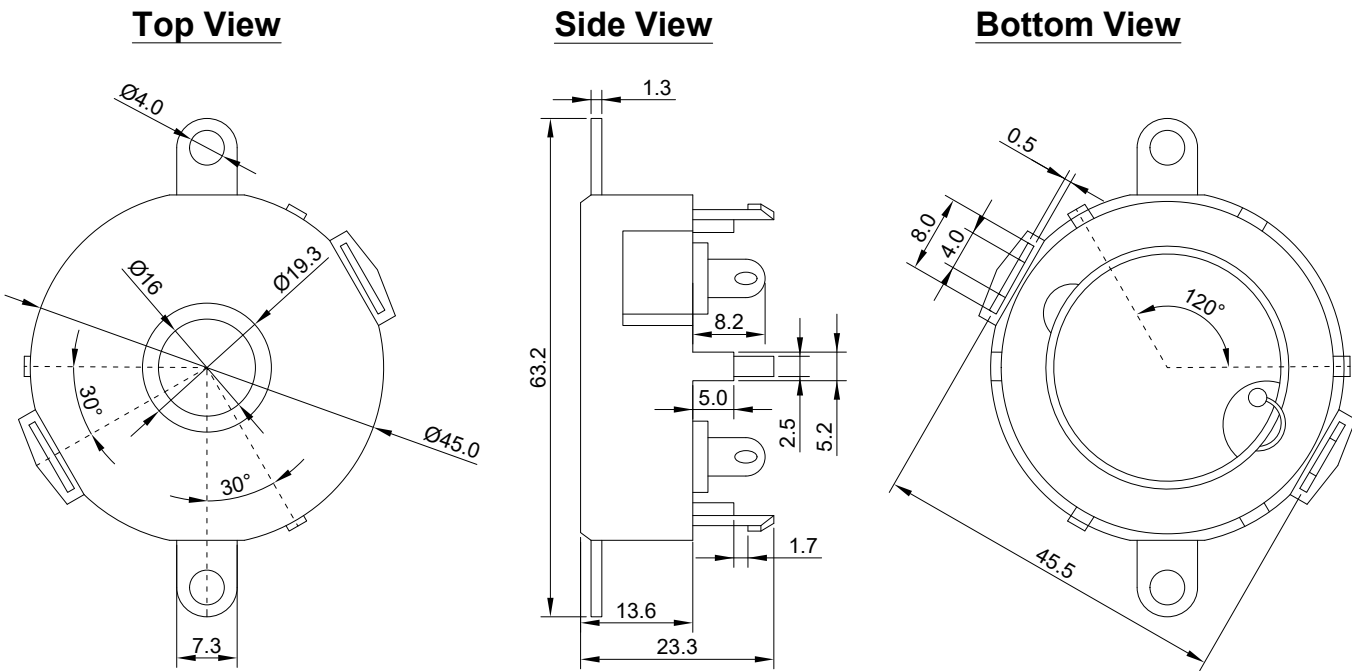

Figure 3. HPA45A Mechanical Layout
4.3.1. Layout and Dimension	: See Section 7, Figure 3